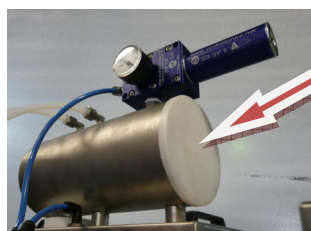

fig.6
- a) Do leave the tank of collection collocated above the machine opened (fig. 6)